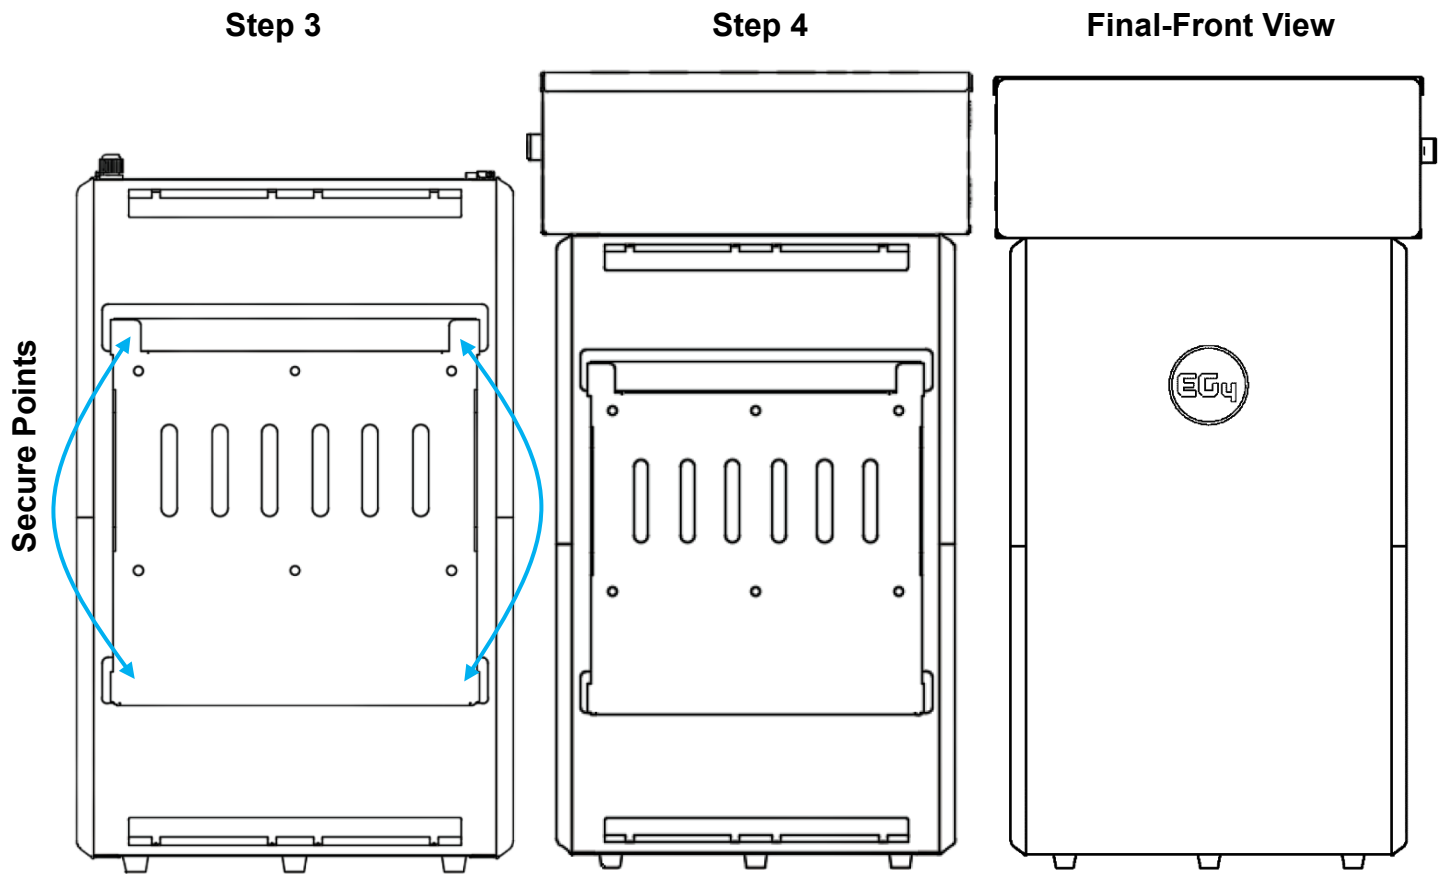

Figure 5 – WallMount 280Ah AW Installation with Conduit Box Steps 3, 4 & 5
3. Attach the WallMount battery pack to the mounting bracket. To accomplish this, lift the battery up and hook the flange on the back of the battery into the flange on the front of the mounting bracket. Secure the battery to the mounting bracket with the 4 included side screws. See Figure 5.